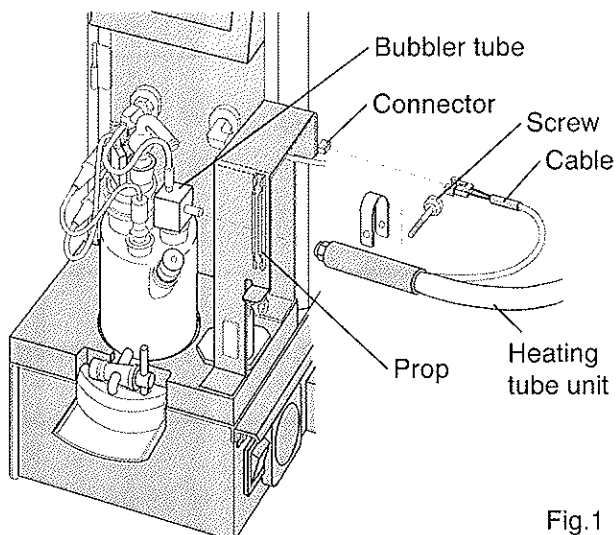

Fig.1
- 1) Disconnect the cable from heater tube (Fig.1).
- 4) Loosen the screw to remove the heater tube from the prop. (Fig.1)
- 5) Remove the heater tube from bubbler tube (Fig.1).